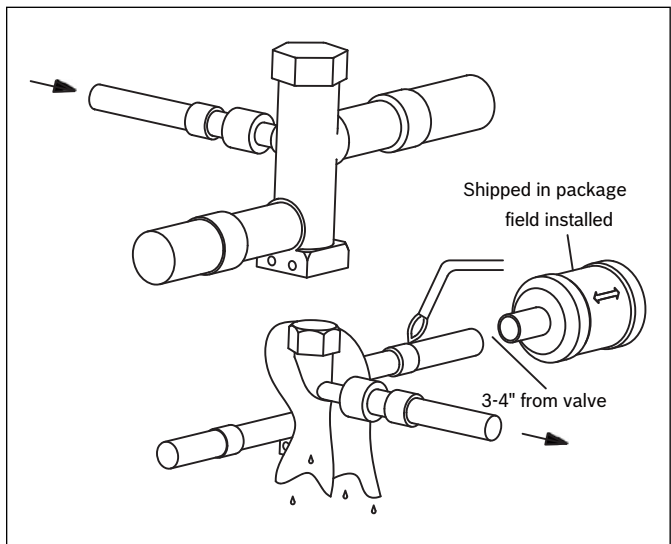

Figure 22
4. Wrap a wet rag around the valve body to avoid heat damage and continue the dry nitrogen purge (Figure 22).